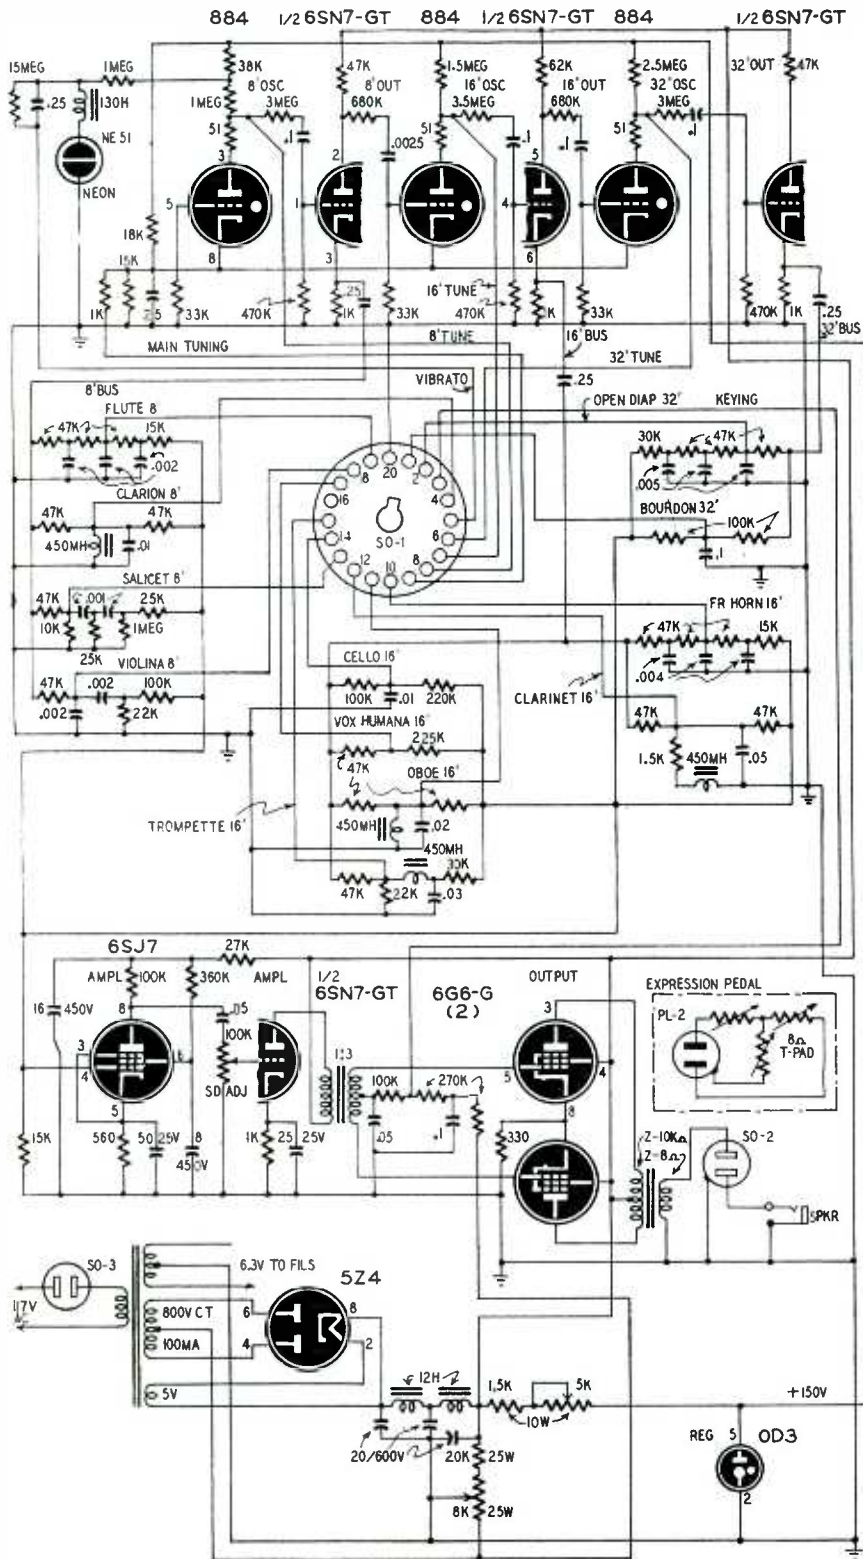
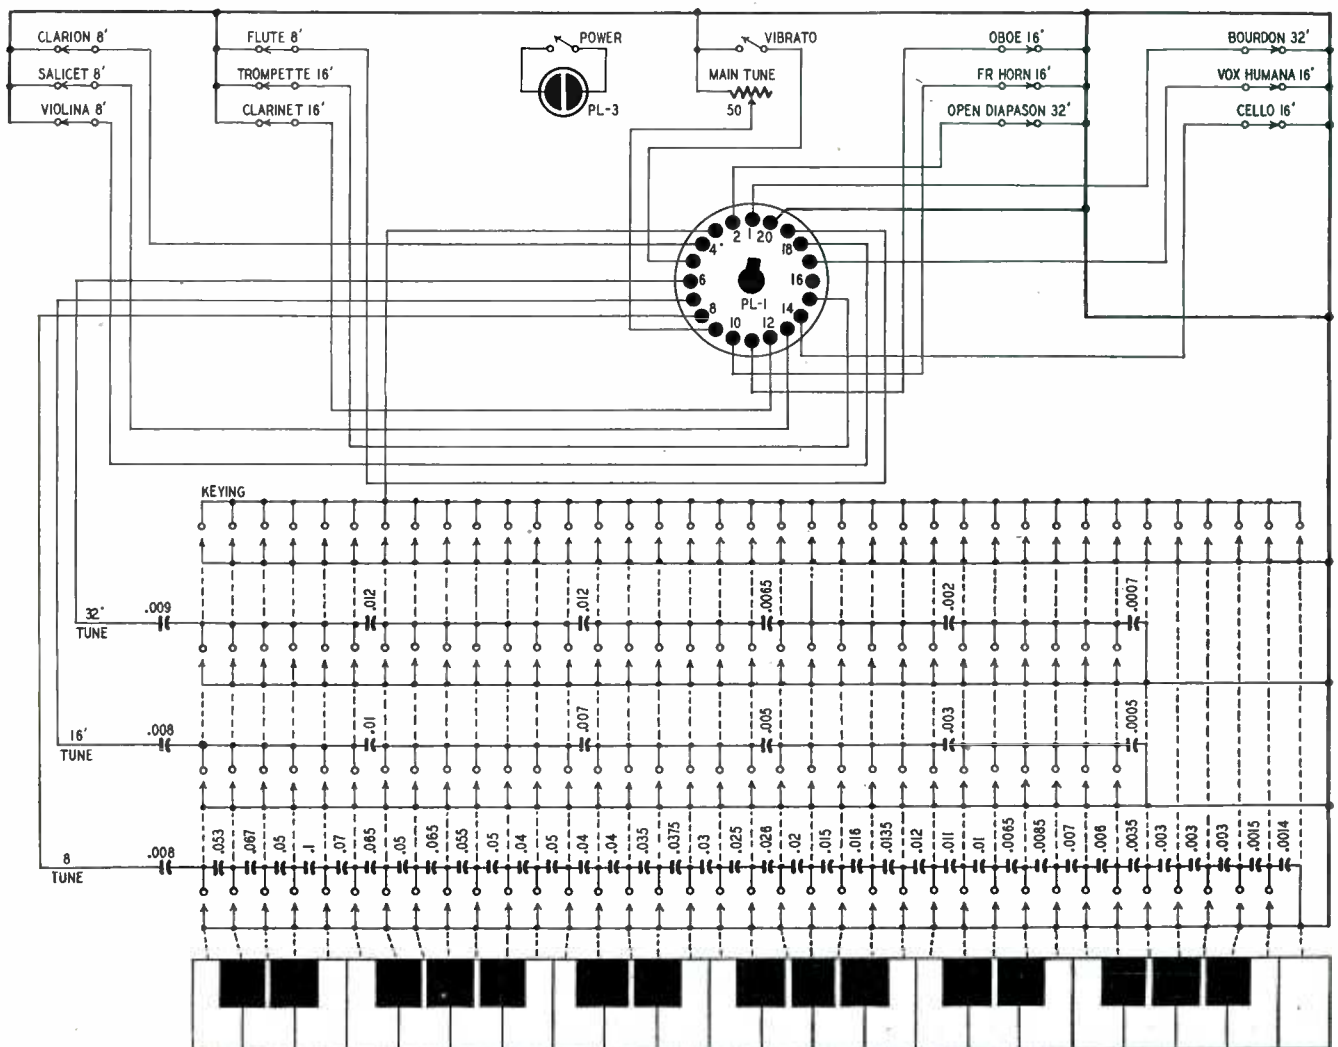
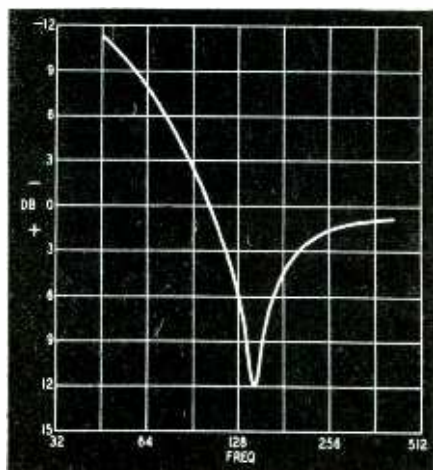

Fig. 2—Main circuit of the Thyratone, including amplifier and power supply.
Fig. 3—The keyboard unit tunes the tone generators and controls the tone colors. A cable connects it to main chassis.
Fig. 8—A curve of this type is plotted by using the circuit of Fig. 7. In this case stability margin is 12 db.
The diagram of the main chassis is given in Fig. 2. Each of the three 884's is used in much the same way as it would be for the sweep oscillator of an oscilloscope. A lead from the plate of each is brought to the keyboard unit, diagrammed in Fig. 3, where it is connected to one end of a string of capacitors. Pressing a key grounds the string at some point, giving a certain net capacitance between plate and ground to tune the oscillator.
The 8-foot oscillator is the "master." Its string has one capacitor for each note. When the junction between the leftmost capacitor and the next one (Fig. 3) is grounded, there is maximum capacitance between plate and ground, and the lowest 8-foot tone (middle C) is produced. When the next key is pressed, there are two capacitors in series between plate and ground, resulting in a lower net capacitance and raising the pitch. When no keys are pressed, the capacitance is the series net of all the units in the string, giving the highest tone. This system avoids off-color tones caused by accidentally pressing two keys at a time. With the
Since it is very difficult to represent this exact arrangement in a schematic diagram, the system of representation as in Fig. 3 is used. The four arrows for each key connected with a dashed line represent the single grounded metal strip. The small circles connected to the capacitors represent contact springs.
The output from the plate of the 8-foot 884 generator (Fig. 2) is connected to the grid of one triode of a 6SN7-GT amplifier through a 3-megohm attenuating resistor and a 0.1- μ f blocking capacitor. Output is taken from the unbypassed cathode of the 6SN7-GT
Referring again to Fig. 3, note that in the 16-foot string there is not a capacitor for every note but only one for every six or seven notes. This saving in capacitors is allowed by the fact that the 16-foot generator is synchronized. For each group of six or seven notes, the natural frequency of the oscillator is made slightly higher than the highest note; when the synchronizing voltage is fed to the 884 grid from the 6SN7-GT the frequency is brought to exactly one octave below the 8-foot tone. For greater stability, constructors may find it wise to use a few more capacitors, say one for every four notes.
To have something concrete to talk about, a typical high-end-response characteristic has been constructed, and is shown as Figs. 1 and 2. According to what we have seen in the earlier articles, the permissible feedback for an amplifier with this characteristic would be about 18 db, giving a phase margin of 25° and a gain margin of 6 db. The important part of the Nyquist diagram is plotted as Fig. 3.
Now draw a line OP, such that angle XOP = 100°, and fix P on this line at the 7.5 db level. This is actually at a radius of 0.422×20 cm (The 0.422 comes from the voltage ratio-decibel table to be found in most reference books, e.g., Terman's *Radio Engineers' Handbook*, page 1). The point P therefore corresponds to the amplitude and phase given in Figs. 1 and 2 at a frequency of 50. This we plot in Fig. 3. Repeating the process at 6, 12, 18 and 24 db we have enough points to plot the solid line. On a larger scale we can draw the dashed line, for which the original zero circle, if I had drawn it, would have had a radius of 160 cm. Going back to the full line, which is part of the Nyquist diagram—the rest, over on the left, does not concern us—we see that it crosses the 180° axis, OY, at the point L where the response is 24 db down.
● Fig. 3—This Nyquist diagram is a phase-amplitude curve on polar coordinates. Significant portion of curve only is shown.
The important idea which Duerdoth has introduced is this: it is not just the pair of points L and M in Fig. 3 which matter, but how close the curve gets to N. The two points define the gain margin (L) and the phase margin (M), but the same values of these quantities would be given by the little dotted pimple on this curve. Yet an increase of gain of 0.1 db, and 1° of phase, would make the dotted loop encircle N.
In Fig. 3, the distance OP is βK , and OP is actually a vector, which includes the phase of K (and of β , if the feedback path is not a pure resistance network). By taking the right account of the signs, and doing a little vector mathematics, we can show that $NP = 1 + \beta K$, so that the length NP is the ratio of the gain without feed-
illator is set to some frequency at the edge of the band, and the meter sensitivity adjusted to give a reading in the middle of the scale. A good way to decide where to start is to increase the feedback until the amplifier sings, and find the singing frequency. Then work down from this frequency (point L in Fig. 3). It is a good idea to add an oscilloscope to make sure that the amplifier is not overloaded. Then operate the switch, and note the change of meter reading. Repeat this procedure at a number of different frequencies until the peak has been located. I generally plot the results, giving the sort of curve shown in Fig. 8. There is not much advantage in doing this with a sharp peak, which can easily be located, but if the peak is a very flat one, as it is with exceptionally stable amplifiers, the stability margin curve is rather useful.